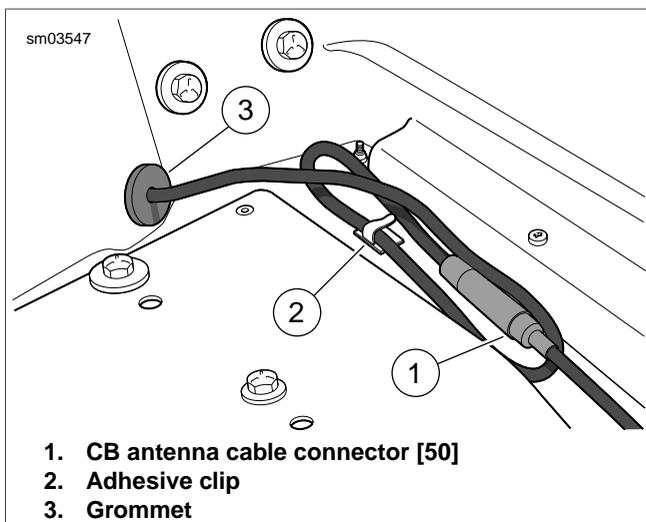

Figure 2-118. Disconnect CB Antenna Cable Connector
9. Moving to right side of motorcycle, disconnect CB antenna cable connector [50]. Release cable from two adhesive clips at bottom of Tour-Pak. See Figure 2-118.
8. Connect CB antenna cable connector [50]. Capture cable in two adhesive clips at bottom of Tour-Pak. See Figure 2-118.